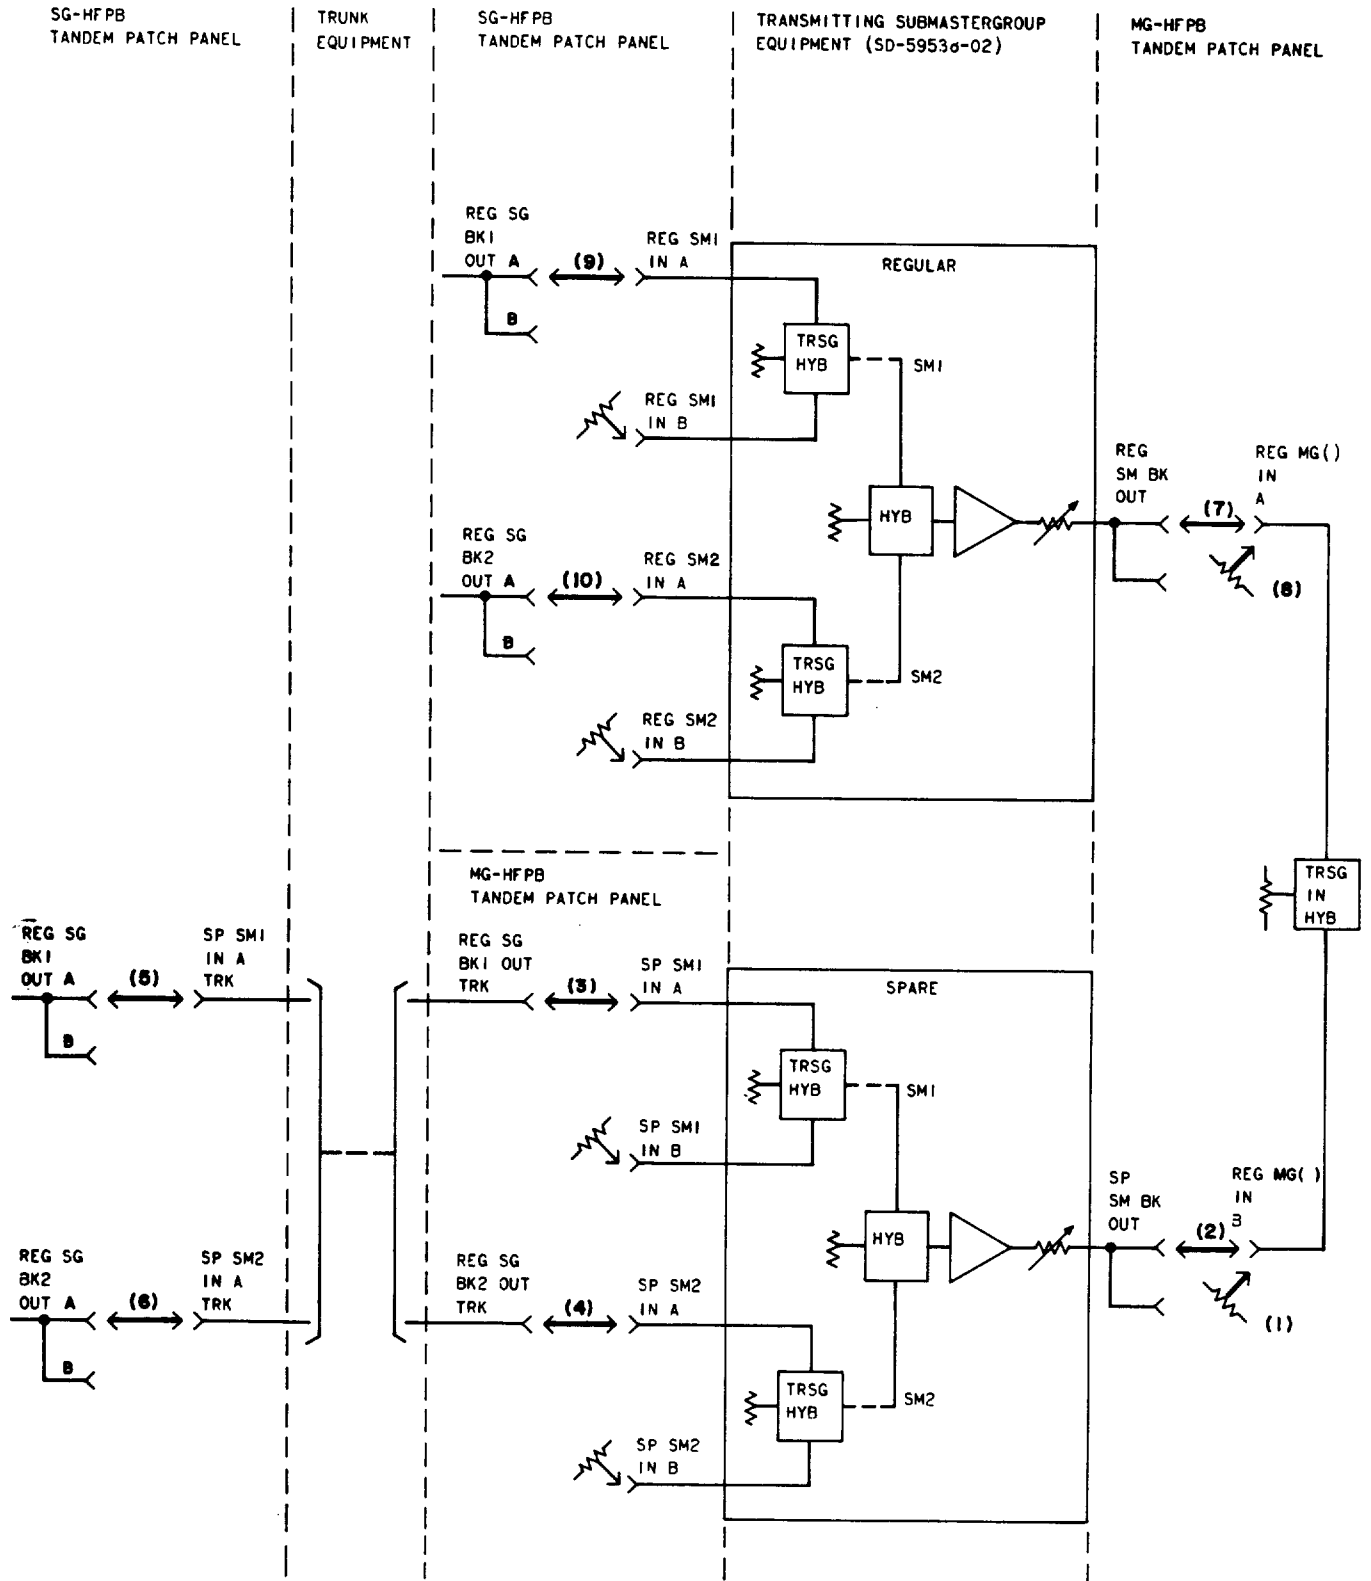

Fig. 3—Removing Regular Equipment From Service—Patching Procedure
| <p>6</p> <p>7</p> | <p>Removing Regular Equipment From Service</p> <p>Locate the jacks (Fig. 2) associated with the regular and spare equipment to be patched.</p> <p>At the transmitting tandem patch panel (MG-HFPB), perform the following steps:</p> <p>(a) Remove the 358B plug (75-ohm termination) from the REG MG( ) IN B jack [patch (1), Fig. 3].</p> <div style="text-align: center;">  <p>SUBMASTERGROUP PATCHING JACKS (SG-HFPB)</p> </div> <div style="text-align: center;">  <p>PART OF TANDEM PATCH PANEL (SG-HFPB)</p> </div> <div style="text-align: center;">  <p>PART OF TANDEM PATCH PANEL (MG-HFPB)</p> </div> <p>Fig. 2—Transmitting Submastergroup Patching Jacks</p> |
|      | <p>Note: Jack designations may vary between offices. The new designations (Table A) are used in this procedure.</p> <p>(b) Insert a 372A plug (through connection) into the REG MG( ) IN B and SP SM BK OUT jacks [patch (2), Fig. 3].</p> <p>(c) Insert a 372A plug into the SP SM1 IN A and REG SG BK1 OUT TRK jacks [patch (3), Fig. 3].</p> <p>(d) Insert a 372A plug into the SP SM2 IN A and REG SG BK2 OUT TRK jacks [patch (4), Fig. 3].</p> |
| 8    | <p>At the transmitting tandem patch panel (SG-HFPB),</p> <p>(a) Insert a 372A plug into the SP SM1 IN A TRK and multiple REG SG BK1 OUT jacks [patch (5), Fig. 3].</p> <p>(b) Insert a 372A plug into the SP SM2 IN A TRK and multiple REG SG BK2 OUT jacks [patch (6), Fig. 3].</p>  |
| 11   | <p>At the transmitting tandem patch panel (MG-HFPB),</p> <p>(a) Remove the 372A plug from the REG SM BK OUT and REG MG( ) IN A jacks [patch (7), Fig. 3].</p> <p>(b) Insert a 358B plug into the REG MG( ) IN A jack [patch (8), Fig. 3].</p>   |
| 14   | <p>At the transmitting tandem patch panel (SG-HFPB),</p> <p>(a) Remove the 372A plug from the REG SM1 IN A and multiple REG SG BK1 OUT jacks [patch (9), Fig. 3].</p> <p>(b) Remove the 372A plug from the REG SM2 IN A and multiple REG SG BK2 OUT jacks [patch (10), Fig. 3].</p>   |